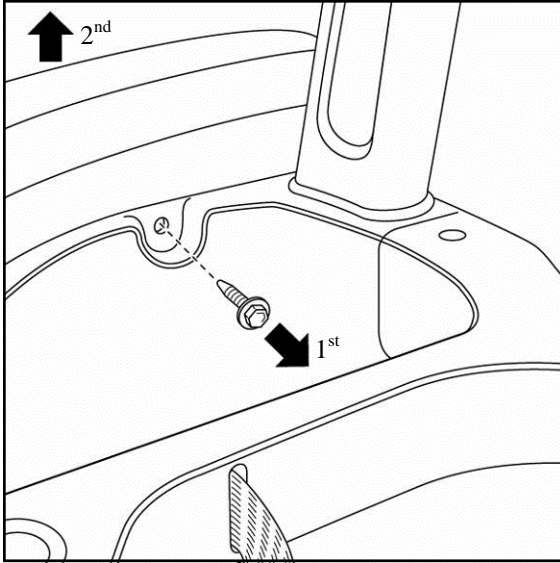

Figure 1: Remove Seat Back
1.1. Remove the seat bottom then remove the seat back. To remove the seat back, first remove and save the two 10mm bolts that secure the seat back and then lift the seat back straight up as shown (Figure 1).